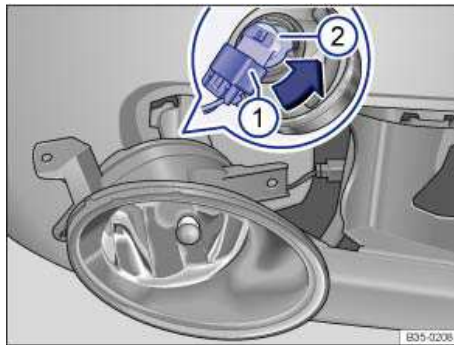

Fig. 205 In the removed light: Replacing the bulb.
| 7. | Release the connector ⇒ fig. 205 (1) and disconnect it. |